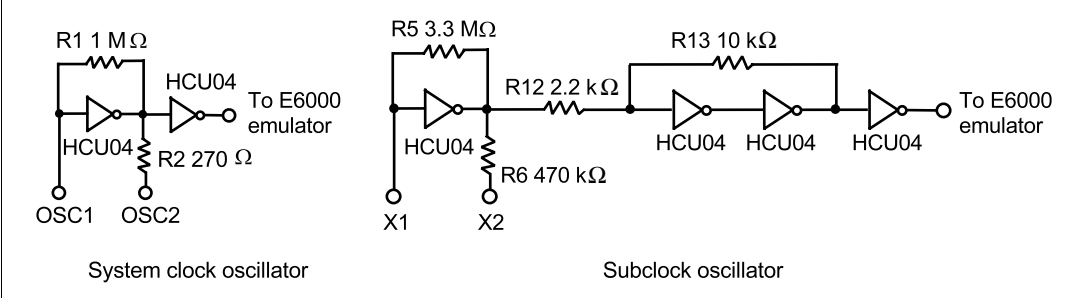

Figure 10 System Clock Oscillator and Subclock Input Specifications
Select target clock t with the CLOCK command (emulator command). Supply the external clock from the user system to the emulator by inputting the external clock from the OSC1 terminal on the cable head or connecting a crystal oscillator to the OSC1 and OSC2 terminals. When a crystal oscillator is inserted into the OSC1 and OSC2 terminals for the system clock, the clock is generated by the oscillator circuits shown in figure 10. To input an external clock from the user system, input clock pulses satisfying the specifications described in the MCU hardware manual into the OSC1 terminal. The system clock (ϕ) frequency is the same as the external clock frequency.
Select target clock sub t with the CLOCK command (emulator command). Supply the external clock from the user system to the emulator. Supply the external clock from the user system to the emulator by inputting the external clock from the X1 terminal on the cable head or connecting a crystal oscillator to the X1 and X2 terminals. When a crystal oscillator is inserted into the X1 and X2 terminals for the subclock, the clock is generated by the oscillator circuits shown in figure 10. To input an external clock from the user system, input clock pulses satisfying the specifications described in the MCU hardware manual into the X1 terminal. The subclock (ϕ_w) frequency is the same as the external clock frequency.
Figure 10 shows the system clock oscillator on the user system interface cable and the subclock input specifications.
5. While the emulator station is connected to the user system with the user system interface cable, force must not be applied to the cable head. Place the emulator station, user system interface cable, and user system as shown in the example in figure 10.